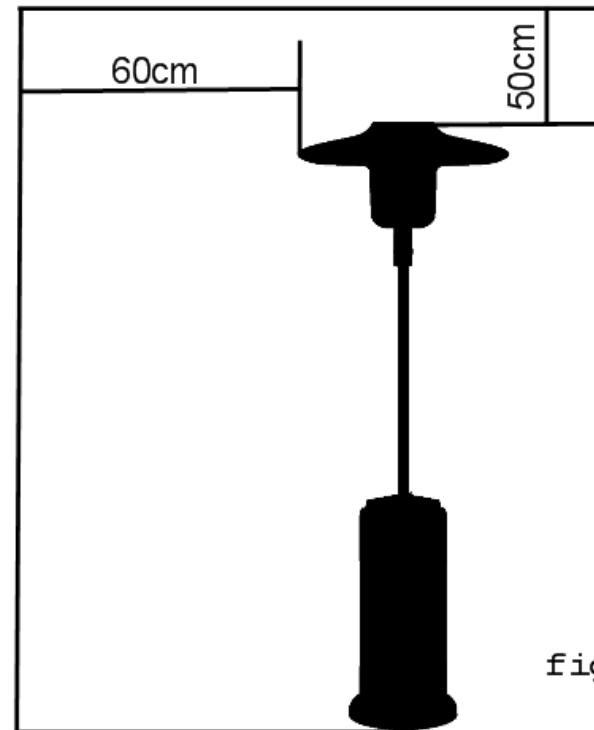

figure 1
- Always maintain proper clearance to combustable materials, i.e. top 50cm (18 inches) and sides 60cm (24 inches) minimum –see figure 1.